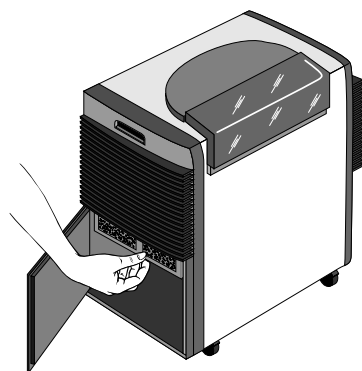

Fig. 4
- To remove the filter, open the tank access panel, remove the tank and remove the filter by pulling downwards (fig. 4).